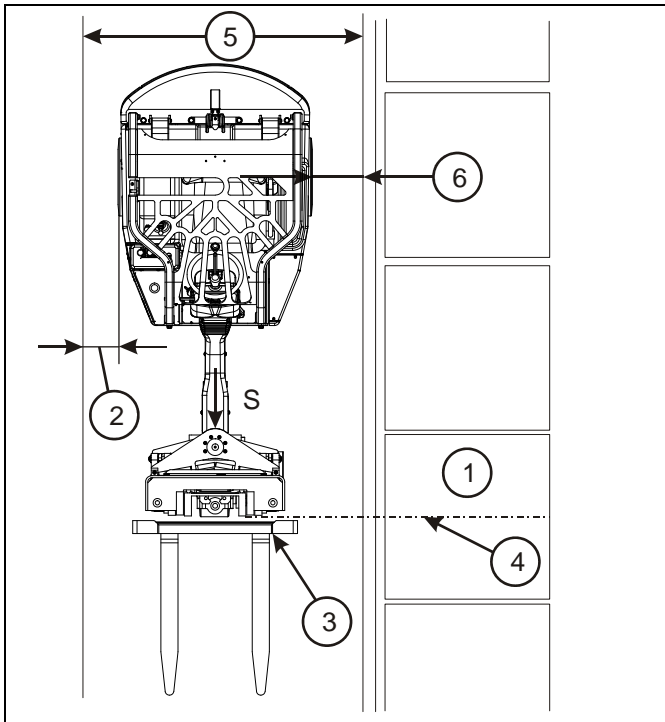

Figure 4-10: Setup - Load Pick Up
Actual minimum aisle width will vary based upon application. See Figure 4-10., item 5.
1. Approach the side of the aisle that is *opposite* the load, Item 1 - See Figure 4-10.
2. For narrow aisles, straighten out the truck so it is 8 in. from the edge of the aisle opposite the load Item 2 - See Figure 4-10. For wider aisles, straighten out the truck so it is 36 in. to 48 in. from the side of the aisle where the load is located. Item 6 - See Figure 4-10.
4. Drive forward until the front edge of the load wheels are aligned with the center of the pallet. Items 3 and 4 - See Figures 4-10 and 4-11.